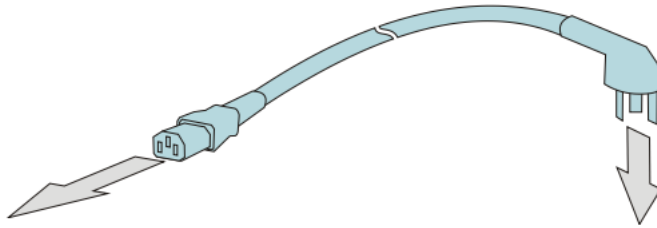

Figure 29: Connect the power supply
- ☐ Connect the power supply cable, see Figure 29.